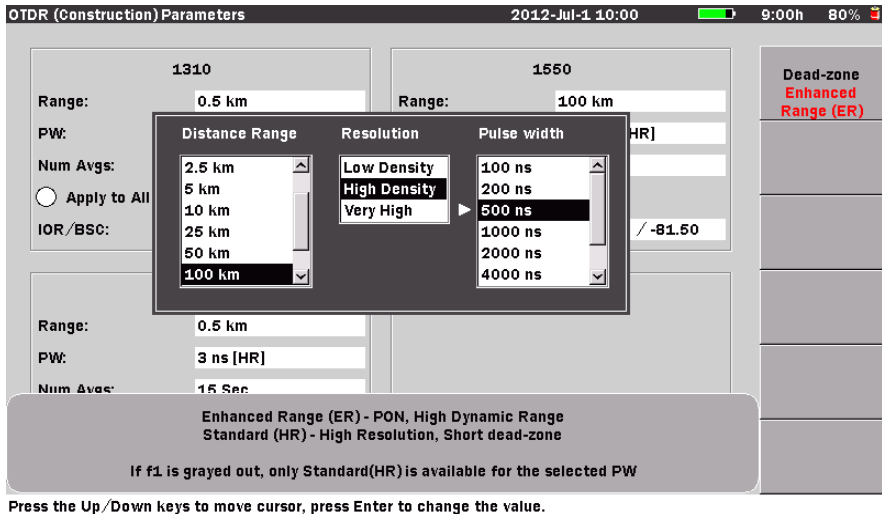

Figure 6-12: Dead-zone Mode Selecting screen
1. With the OTDR Parameters screen displayed, use the **Left/Right/Up/Down Arrow keys** (or the **Rotary knob**) to highlight the **Range** field or **PW** field for the for the first desired wavelength and then press the **Enter key** (or the **Rotary knob**). The Distance Range, Resolution, and Pulse width dialog box appears (see Figure 6-12 on page 6-33).